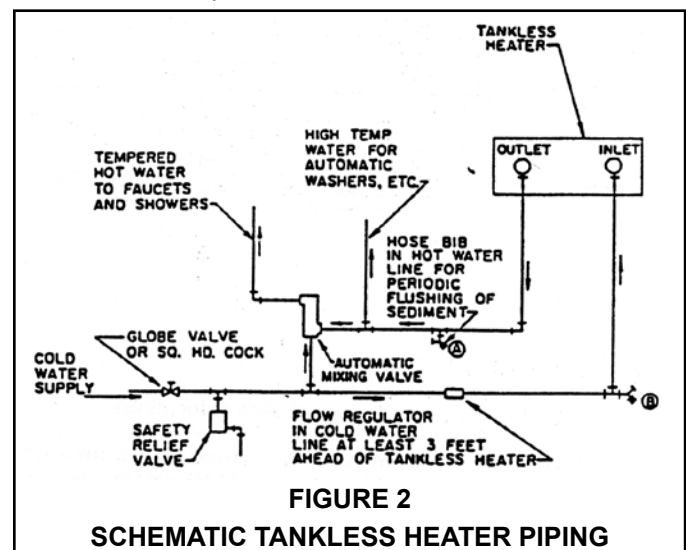

FIGURE 2
Attach supply and return piping lines and insert plugs and bushings in connections as required. Supply and return piping headers are detailed in Figure 2.
A. If boiler is ordered with tankless heater, connect tankless heater piping as shown in Figure 2.